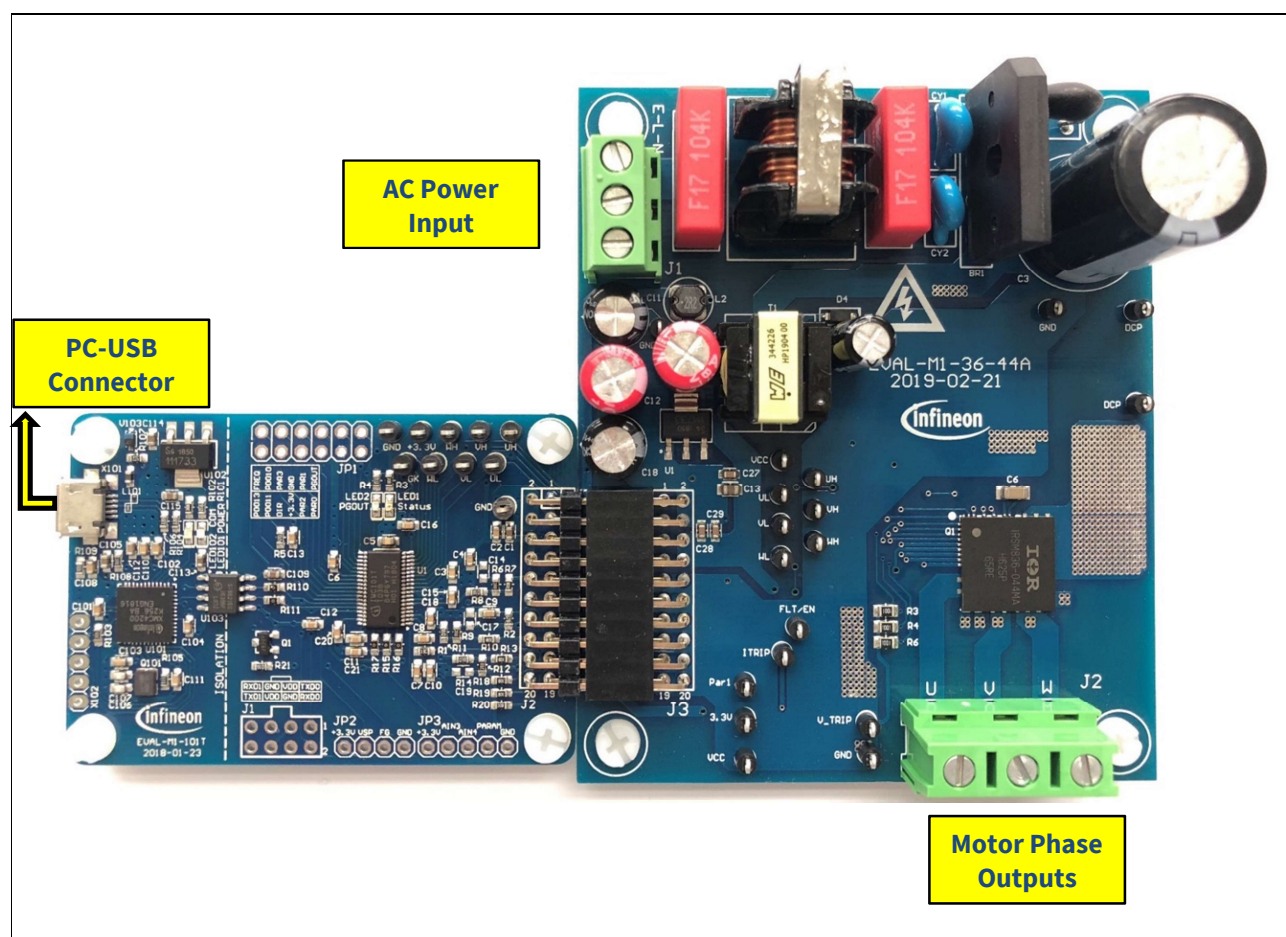

Figure 5 System connection example using EVAL-M1-101T and EVAL-M1-36-44A
2. Connect EVAL-M1-36-A's MADK M1 20-pin interface connector (J3) to control board (see Figure 5).